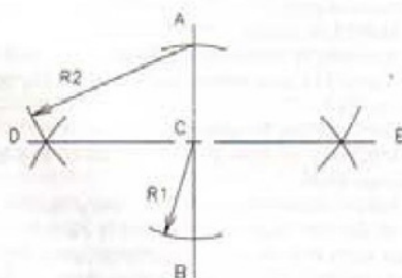
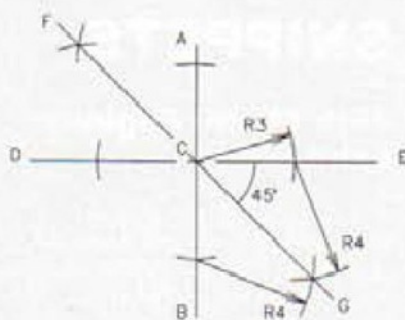
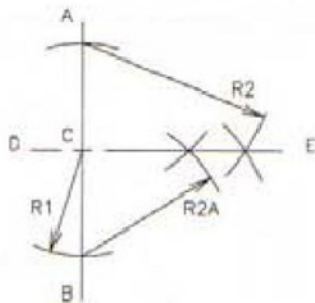

Fig. 1
Fig. 2
Fig.5
easily be set out using the method in Fig. 1. This shows a line DE being constructed at 90 deg. to line AB and through point C. The dividers are set to radius R1, the value of which is quite unimportant, and arcs made towards the ends of line AB. Now set the dividers to a larger radius and make the arcs which determine the ultimate position of line DE. Line DE can now be made, making this run through the points where the arcs coincide.
Figure 2 shows how a 45 deg. angle is achieved by bisecting a 90 deg. angle, maybe established by the above method. The dividers are set for R3 and arcs made, towards either end of lines AB and DE. The dividers can, though need not, be left at the same setting for marking out arcs at radius R4. Arcs are made, one from each R3 arc, as shown in Fig. 2. Line FG is then made through the points where arcs R4 intersect. This line, FG, will be at 45 deg. to line AB.
It is probable, in some cases, that the size of the workpiece will not permit marking out on both sides of line AB and in this case point C and a single pair of crossed arcs may have to be relied on. It is possible to make an additional pair of arcs on the same side as the first to make the result self checking. Fig.5 shows how this is achieved for a right angle by the addition of radius R2A. Compare this with Fig.1. The methods illustrated in Figs. 2, 3 and 4 can also be similarly adapted if space is a problem. Arcs on both side of line AB, being farther apart, help to achieve a higher level of accuracy.
the case. There are some requirements to make the system work and assist in achieving maximum accuracy. To illustrate these simply, consider Fig.1. Having marked out R1 it should be obvious that R2 must be larger or else the arcs would not cross. If only a little larger they would cross close to point C and any error in determining the point where the arcs cross would result in a larger error than with the crossed arcs farther from point C.
- (i) to access the change wheels (**Fig. 1**).
- (ii) to be able to knock out centres with a bar of length greater than the length of the mandrel (**Fig. 2**).
- b) Drilling holes in the centre of long lengths of material. The same reasoning applies as for servicing (**Fig. 5**).